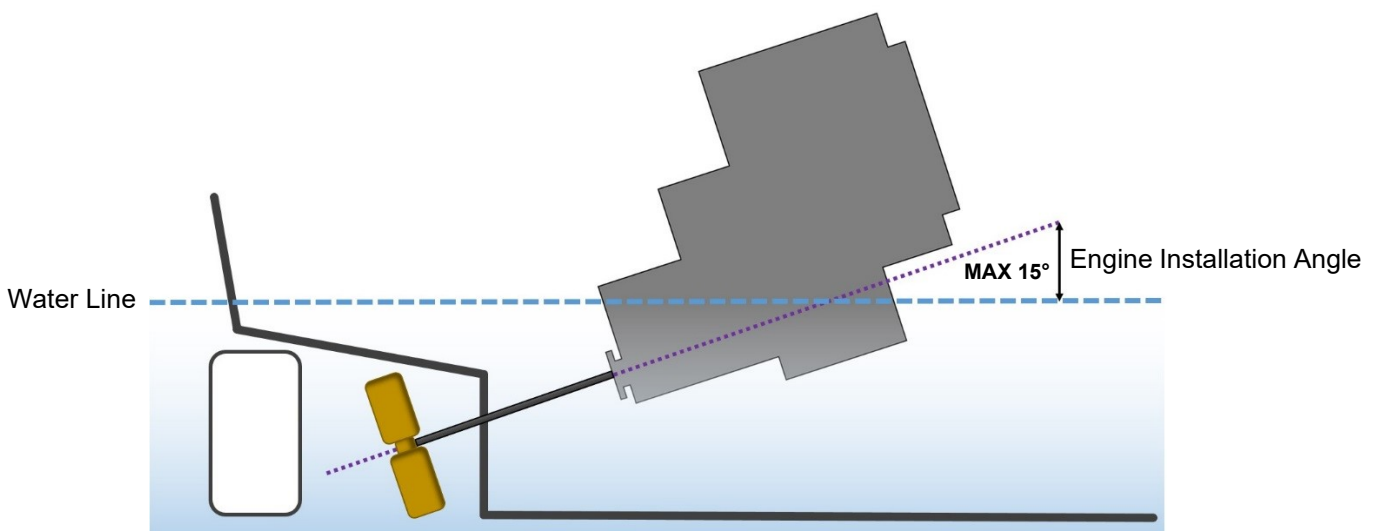

Figure 22: Maximum Engine Installation Angle
- The engine installation angle is the angle of the crankshaft centre to the water line (**Figure 22**).